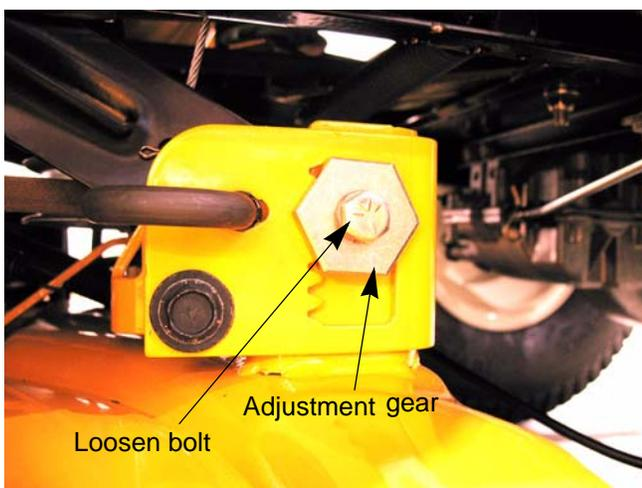

Figure 8.30
3. Working from the left side of the tractor, loosen, but do not remove, the bolt on the left deck hanger bracket. See Figure 8.30.
4. To level the deck turn the adjustment gear, located immediately behind the bolt, clockwise (rearward) to raise the left side of the deck. Turn the gear counter-clockwise (toward front) to lower the left side of the deck. See Figure 8.30.